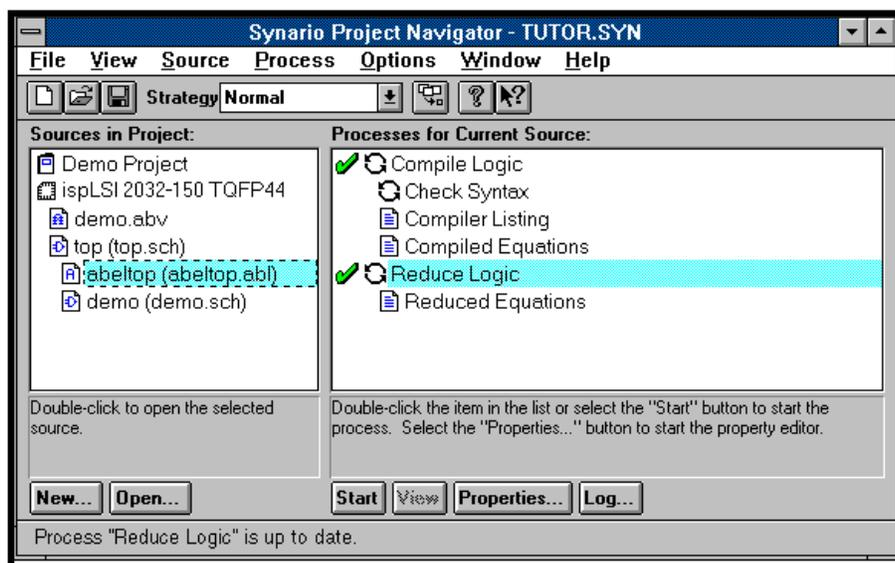

Figure 1-28. Synario Project Navigator after ABEL-HDL Compile
52. In the Sources in Project field of the Project Navigator, select the abeltop source (abeltop.abl). In Processes for Current Source, double-click on Reduce Logic. The Navigator will take care of running the Compile Logic process before it executes the Reduce Logic process. When the process is finished, your Navigator should match the one in Figure 1-28.